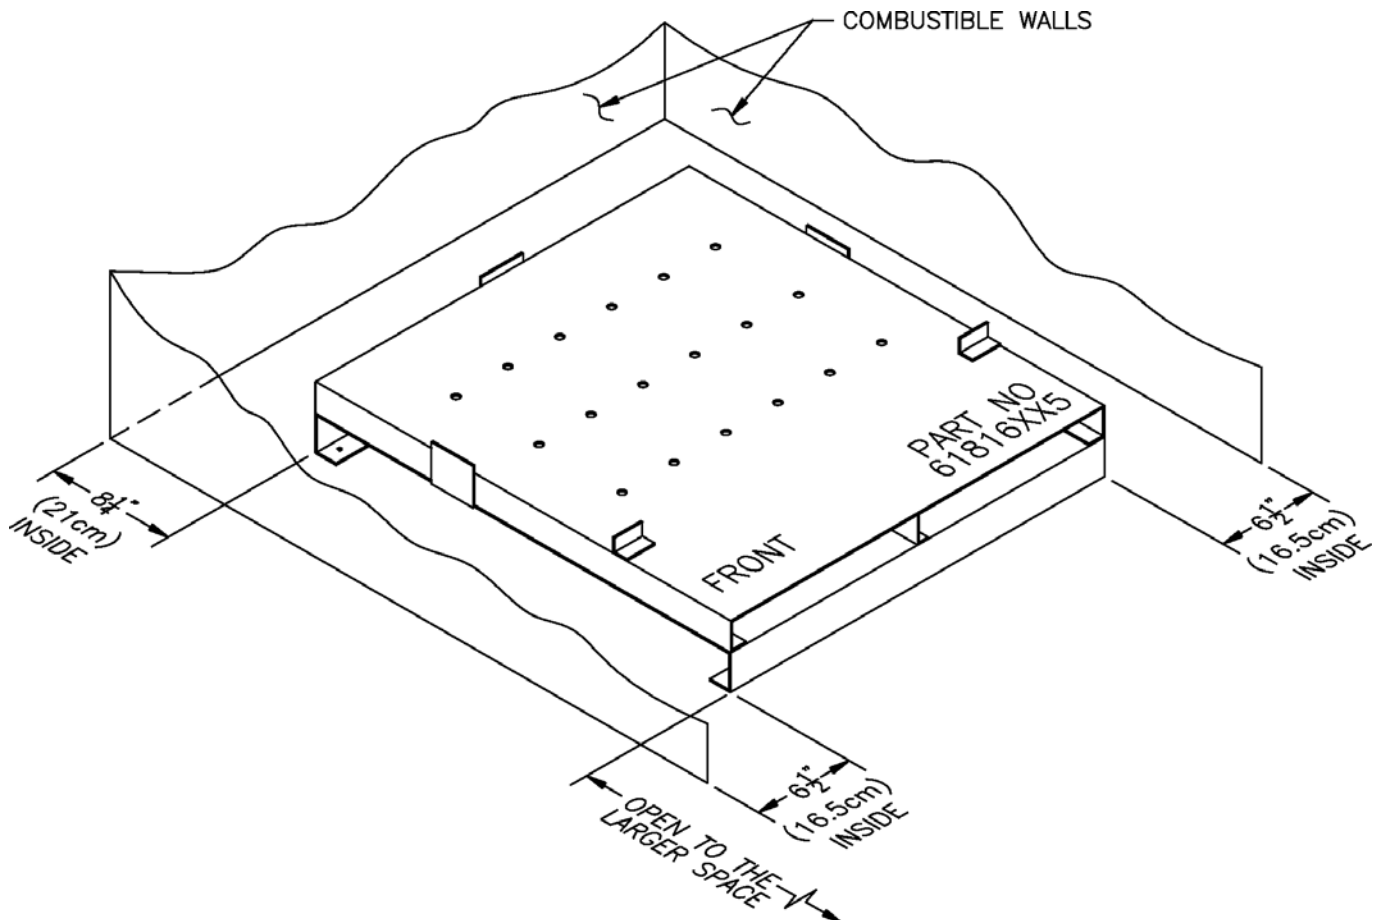

Figure 4: Installation of Special Base for Combustible Flooring
E. Install special base if installation is on combustible flooring. See Figure 4. Floor shield adds 4 3/4" to boiler height.
- Locate special base with spacing to combustible materials as shown in Figure 4.
- Do not enclose boiler (including special base) on all four sides. Models 807HE may be enclosed on three sides (alcove) while maintaining clearances shown in Figure 4.